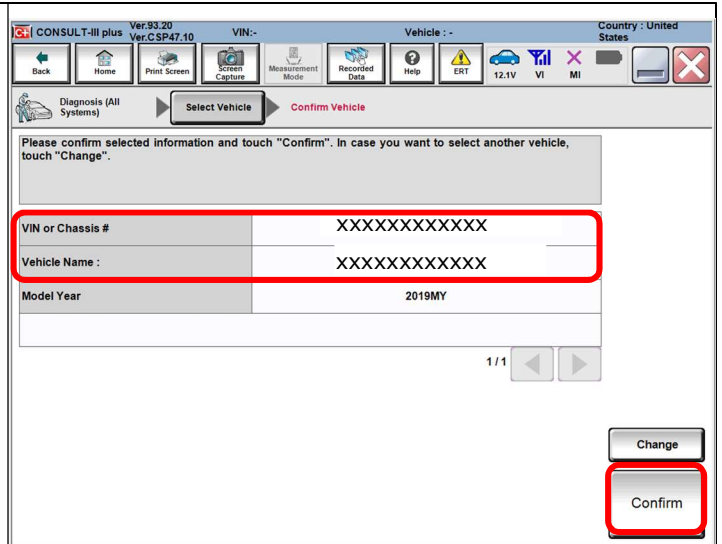

Figure 3
5. Confirm the Vehicle. (Figure 3)